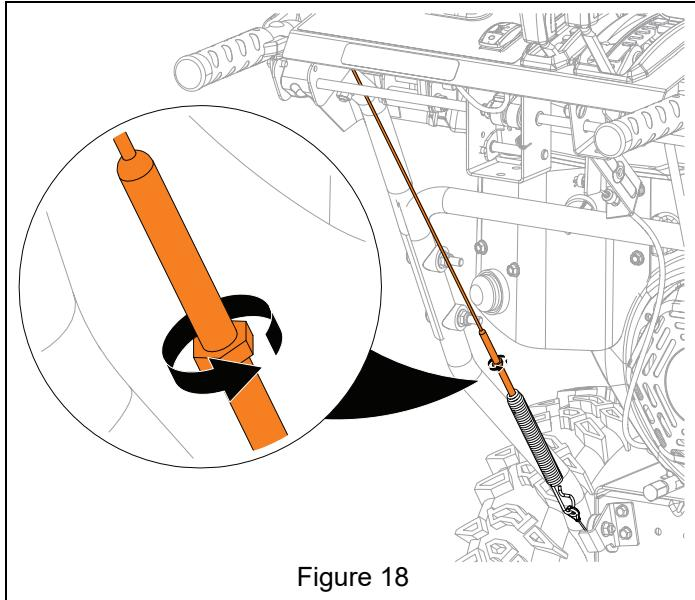

Figure 18
5. Loosen traction drive clutch cable. See Figure 18.